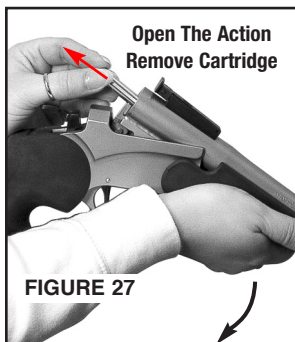

FIGURE 27
- Open the barrel and remove the cartridge from the breech (FIGURE 27).